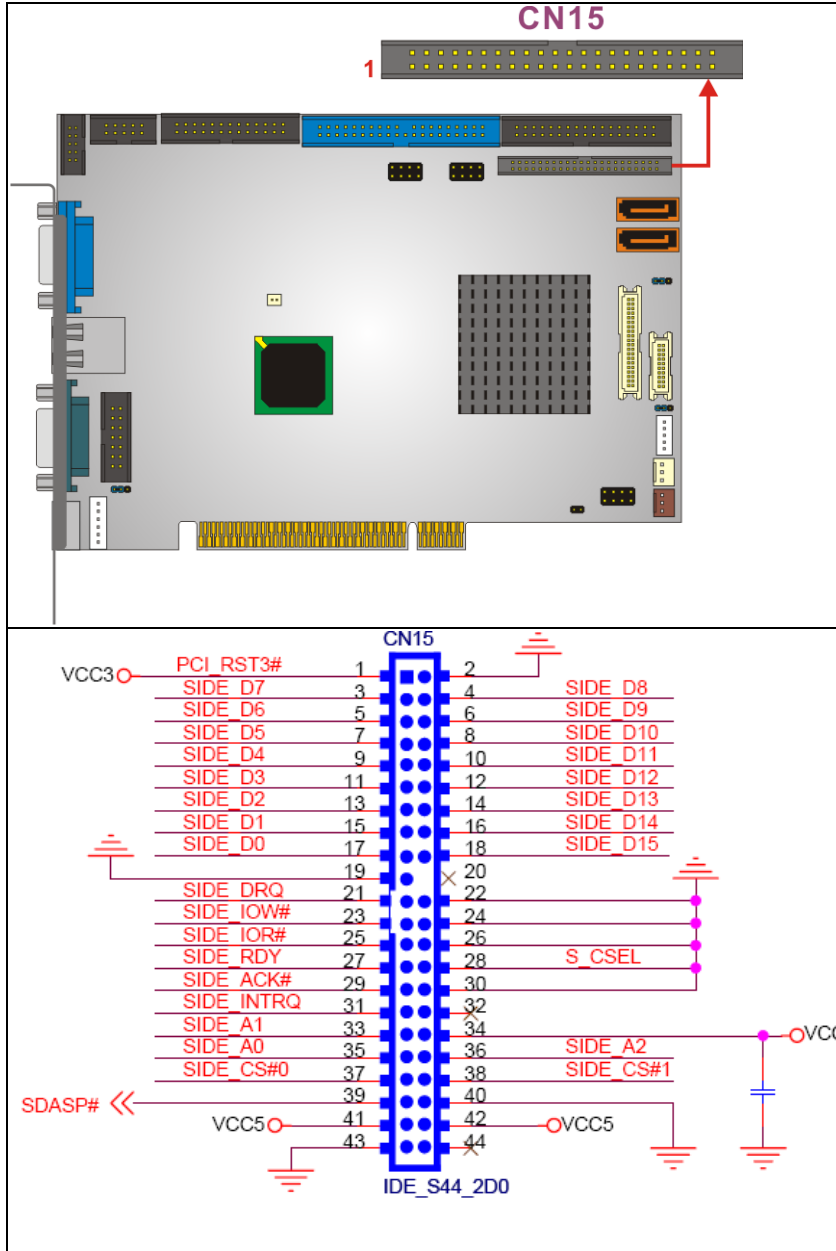

Figure 3-11: Secondary IDE Device Connector Locations
- CN Location:** See Figure 3-11